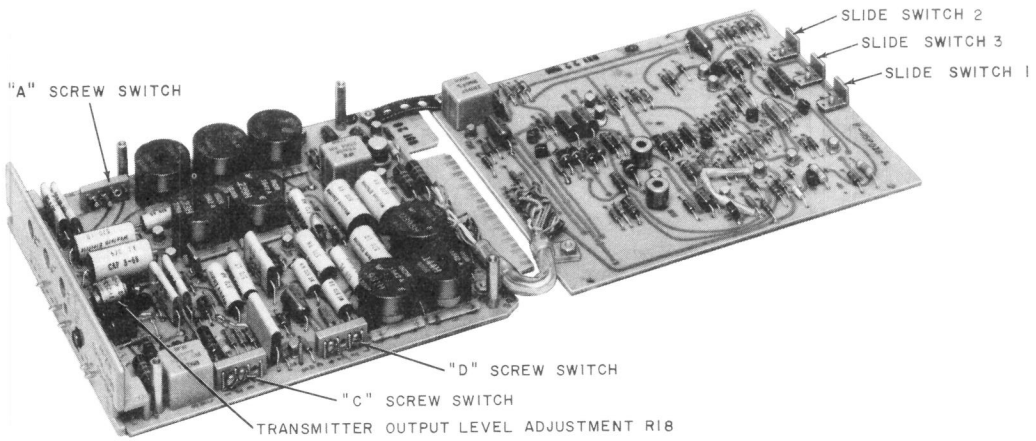

Fig. 6—Data Set 108D-L1 Showing Location of Switches
**2.01** Data sets 108D-L1 and 108E-L1 each consist of two printed wiring circuit boards mounted together in piggyback fashion (Fig. 6 and 7). The piggyback arrangement provides a narrower faceplate than DS 108A or 108C, and occupies only two-thirds of the space necessary for DS 108A or 108C. Data sets 108D-L1 and 108E-L1 are each approximately 5-1/2 inches high, 7-1/5 inches deep, 1-1/8 inches wide, and weigh approximately 2 pounds.
option Y must be installed in DSs 108D-L1 and 108E-L1. The loop facility must be connected to the terminals mating with card terminals 15 and 16 (R and T) and the proper hybrid network option installed. Options Y and Z are under control of screw switch A (Fig. 6 and 7). The A screw switch setting for each option is listed in Table B.
**4.06** The transmission level of the DSs 108D-L1 and 108E-L1 are continuously adjustable over a range (see Table A) to allow compensations to be made for differences in local loop loss. Potentiometer R18 (Fig. 6 and 7) adjusts the output power level through a range of -6 to -26 dBm for DS 108D-L1 or 0 to -26 dBm for DS 108E by continuous adjustment into a 600-ohm loop 4-wire circuit or a 900-ohm loop 2-wire circuit.